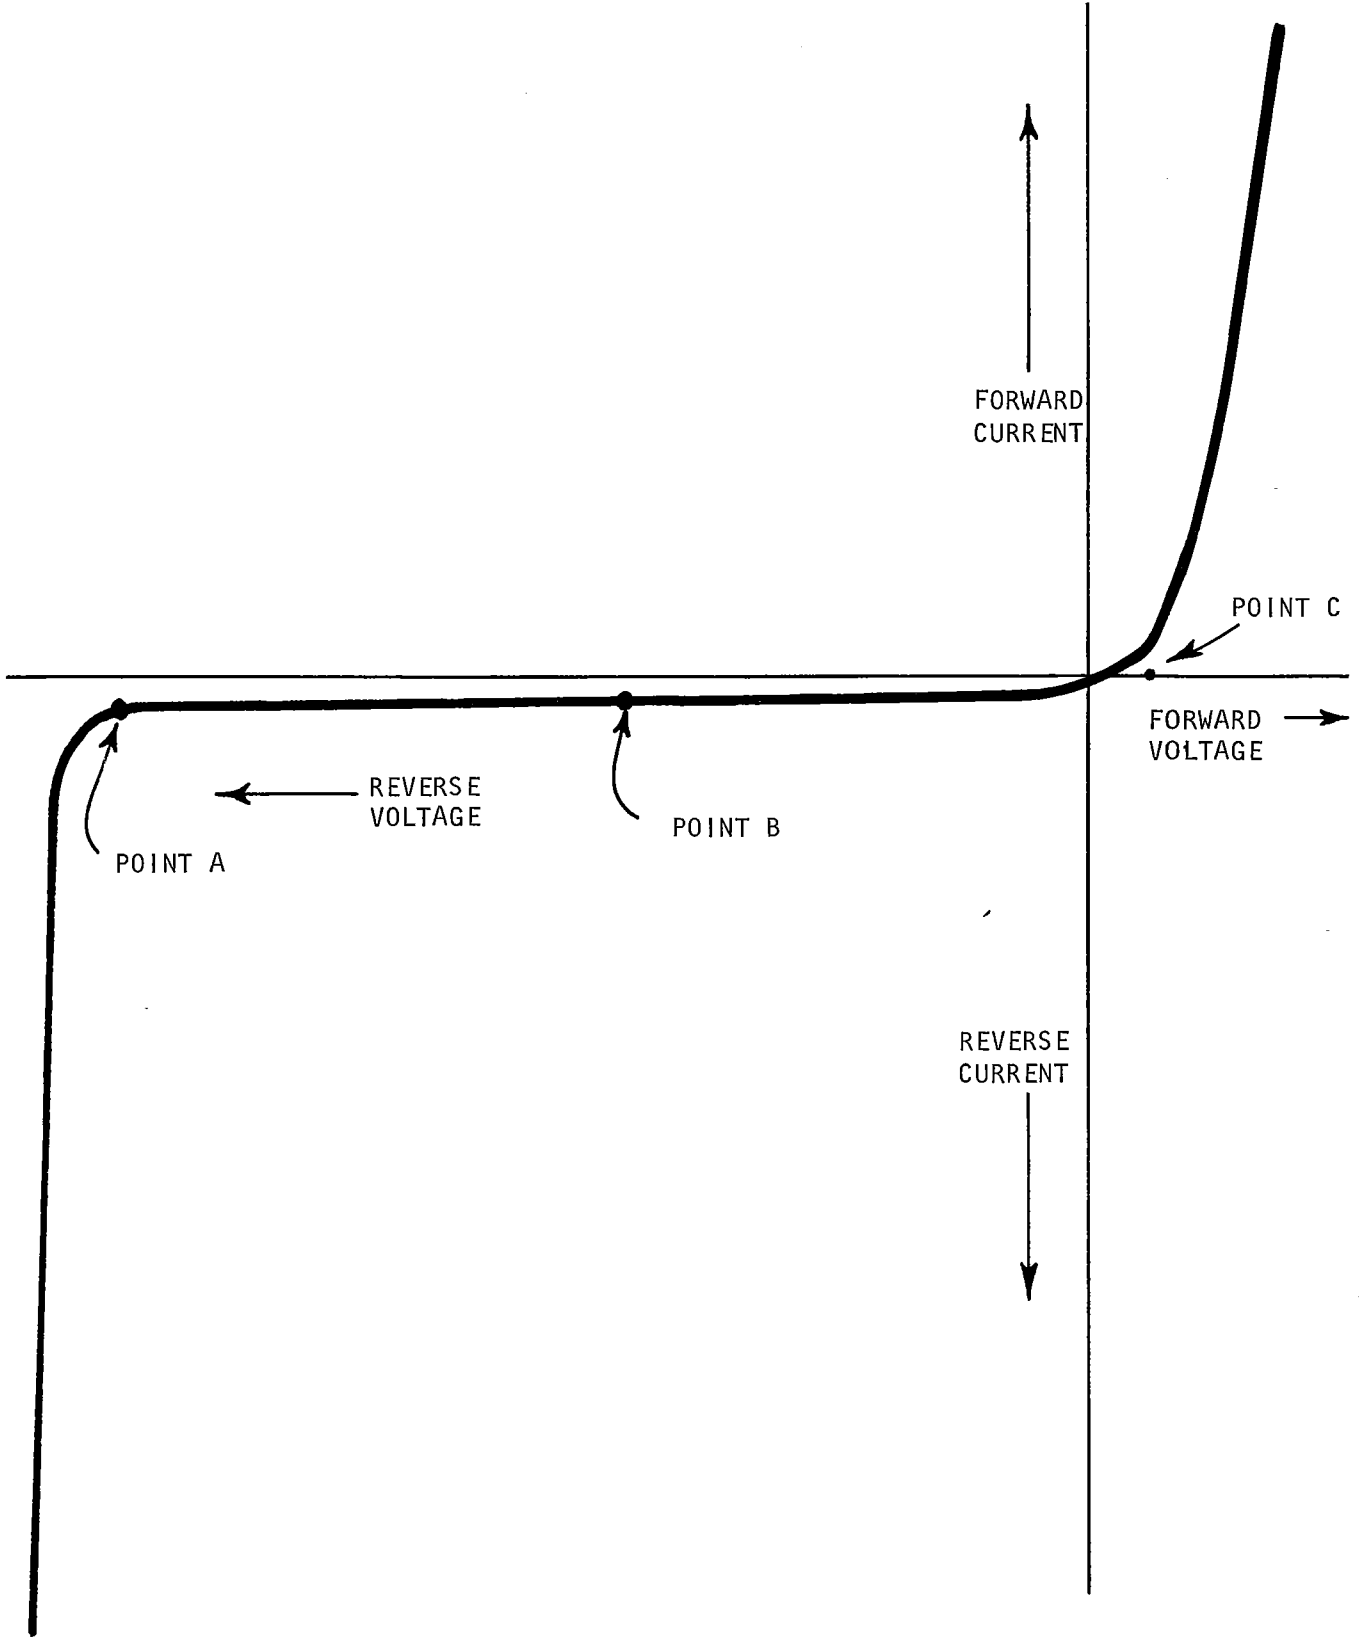

FIGURE 22
22.3 Reverse bias opposes majority carriers crossing the junction. Minority carriers cross the junction when reverse bias is applied. The amount of current at point B in figure 22 is limited by the number of \_\_\_\_\_ present in the two sides.